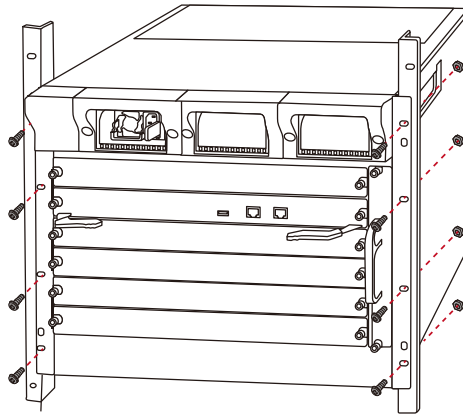

Figure 3-2 Mounting the CS-6306R in a Rack
Step 3 After the brackets are attached to the CS-6306R, use suitable screws to securely attach the brackets to the rack, as shown in Figure 3-2.